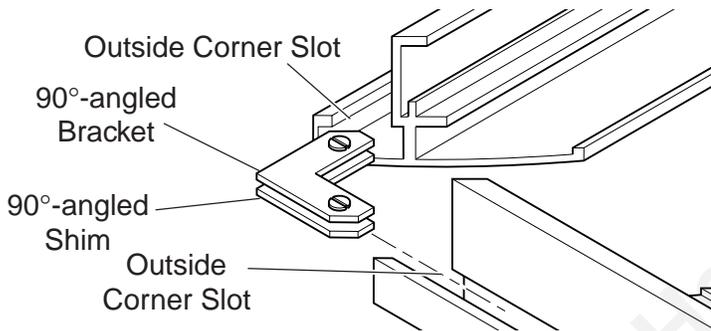

Figure 10 - Securing Corners Together
3. Slide one (1) 90°-angled bracket (with attached screws) and one (1) 90°-angled shim in the outside corner slot where the top and side trims meet. *See Figure 10.*